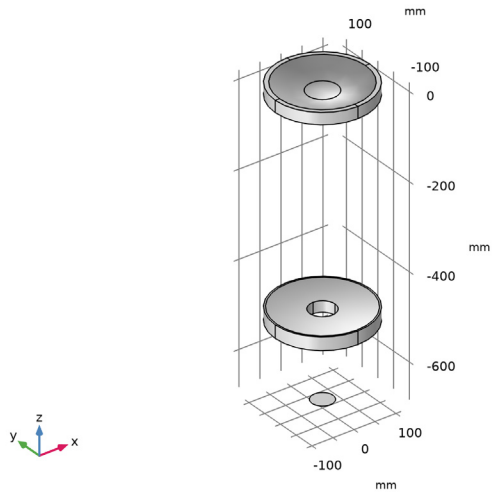

Figure 2: The Gregory-Maksutov telescope geometry sequence.
When constructing a geometry in COMSOL to be used in a Geometrical Optics ray trace, it is important to appreciate that the order in which optical elements are placed in a geometry sequence does not affect the results of the trace. However, it is convenient to place optical elements relative to one another. This can be achieved by taking one of the built-in work planes in a Part Instance as the reference for the placement of the next Part Instance. The resulting Gregory-Maksutov telescope geometry sequence is shown in Figure 2. Detailed instructions for creating the geometry can be found in Appendix — Geometry Instructions.
- 8 Click the  **Orthographic Projection** button in the **Graphics** toolbar. Compare the resulting geometry to Figure 2.